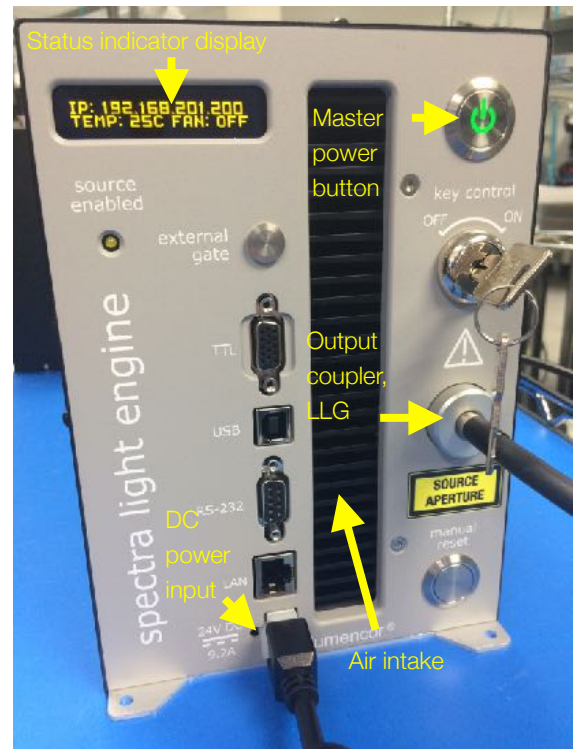
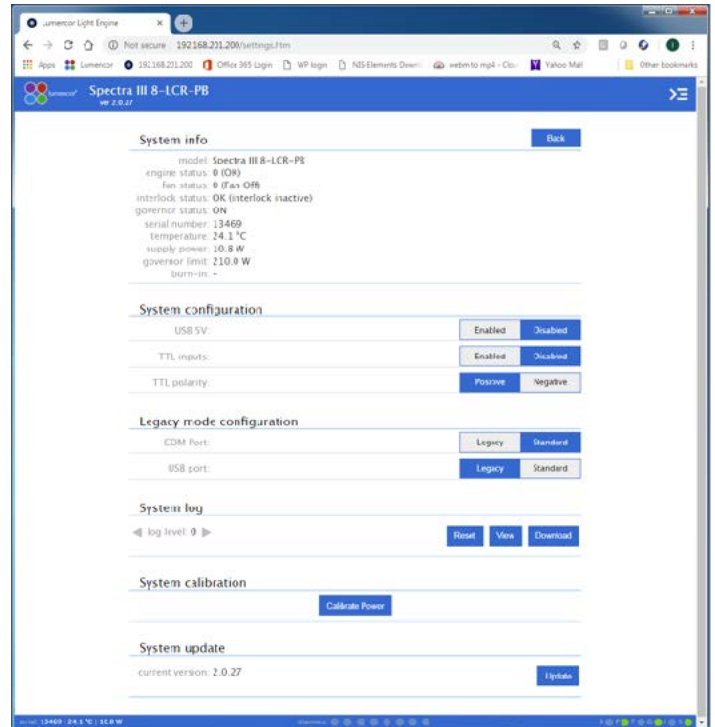

Figure 3. SPECTRA Light Engine front panel
Figure 6. SPECTRA GUI, Settings Tab. The GUI is accessed by typing the light engine IP address (198.168.201.200 in this example) into a web browser.
When setting the SPECTRA Light Engine up for use, place the unit on a hard surface and avoid blocking or restricting airflow at the air inlets (front panel; Figure 3) or exhaust ports (rear panel) on the enclosure. Restricting the airflow will cause the unit to operate at elevated temperatures and will result in decreased product life and/or premature failure.
The SPECTRA Light Engine must be operated in a non-condensing environment (dew point <math><10^{\circ}\text{C}</math> with controlled ambient temperature between 20 and 30° C). Thermal overload protection is provided by the onboard microprocessor in conjunction with an onboard temperature sensor. If the internal temperature registered by the sensor exceeds 50°C or the fan rotor is stopped, all light output channels automatically turn OFF and are locked in this state until the internal temperature is below 50°C and/or the fan restarts. The current reading of the onboard temperature sensor is displayed on the front panel status display (Figure 3) and in the GUI (Section 3.3.3).
The SPECTRA Light Engine may be configured for light delivery via a 3 mm liquid light guide or an SMA-terminated optical fiber. The output couplers are built into the light engine front panel and are not field-exchangeable (Figure 3). The 3 mm liquid light guide output coupler incorporates an electrical power interlock switch in the back of the receptacle. The liquid light guide must be fully inserted in the receptacle to activate the interlock. Electrical power supply to the light engine cannot be turned on via front panel power switch until the interlock is activated. After fully inserting the liquid light guide, lock it in position using the set screw on the side of the receptacle to prevent inadvertent disconnection of the light guide during use.
Connect the DC power supply to a grounded AC wall outlet using the power cord supplied with the light engine. Connect the DC output to the 6-pin receptacle on the front of the light engine (Figure 3). Turn the light engine on using the master power switch. The embedded green indicator will illuminate (if applicable, ensure that the liquid light guide is inserted and secured; see below).
The **Master Power Switch** button on the front panel (Figure 3) turns the electrical power to the unit on or off. A green power indicator embedded in the button is lit when the power supply is connected to the light engine and the power button is in the on position. Initialization of the onboard computer takes about 30 seconds after the master power switch is turned on. When initialization is complete, the status indicator display (Figure 3) will activate.
The **Key Control** (Figure 3) must be in the on position before light output can be turned on. The key must be removed and stored in a secure location when the product is not in use. **ONLY** trained individuals should use and have access to the key. The **Master Power Switch** button, **Key control** and **Remote interlock** (Figures 3,4) can be used to shut off light output.
The **Source Enabled** indicator LED (below the status indicator display, Figure 3) provides a warning indication that one or more light sources are active and emitting invisible and/or visible radiation.
2. Insert the external gate jumper (Figure 2) in the labeled socket on the front panel (Figure 3). Insert the interlock jumper in the labeled socket in the lower left corner of the rear panel² (Figure 4).
9. Type the Light Engine IP address (Figure 3) into any web browser address bar to access the resident Web GUI. The factory default IP address is 192.168.201.200
SPECTRA Light Engines have two serial ports, labeled USB and RS-232 (Figure 3), which can be set to receive either LEGACY or STANDARD mode commands. Connection to the computer requires a USB-A-to-USB B cable (29-10058) or USB-to-RS-232 cable (29-10011). LEGACY commands are limited to controlling on/off switching and intensity adjustment of individual color channels. Only one of the two ports can be set to LEGACY mode at one time. The STANDARD mode command set gives access to an extensive panel of operating status reports and configuration settings in addition to the the basic control functions of the LEGACY command set. A complete listing of STANDARD mode commands is provided in *Lumencor Light Engine Command Reference* (Document number 57-10018). Note that LEGACY and STANDARD mode communications use different serial protocols (9600,8,N,1 and 115200,8,N,1 respectively). Changes to the command mode setting for a serial port can be made via the **Settings** screen of Web GUI (Figure 6). Changes are applied instantaneously and are retained between power cycles.
safeguard against unintended light output when the inputs are initially connected, the light engine TTL port is disabled and must be enabled by a serial command. To enable the TTL input, click the **Enabled** button next to “TTL inputs” in the GUI under the **Settings** tab (Figure 6) or send the standard mode command SET TTLENABLE to the LAN port. Input TTL signals can be conveniently addressed using an accessory BNC breakout cable (Lumencor part no. 29-10156 or 29-10216; Figure 7) connected to the front panel TTL port. The breakout cable also provides a global shutter input (labeled “shutter”). TTL signals input to the global shutter will synchronously toggle all currently enabled source channels on and off.
SPECTRA Light Engine may incorporate different types of solid state light sources. Constituent light sources may include LEDs or luminescent light pipes. The light sources installed and the bandpass filters associated with each are shown on the Certificate of Conformance included with the shipping documents e-mailed by Lumencor to the customer. The certificate of conformance also shows full (100%) power outputs for each source measured at the terminus of the liquid light guide (LLG) or optical fiber (Figure 1). Not all sources may be turned on simultaneously. To prevent exceeding the capacity of the DC power supply, power consumption is tracked by the onboard microprocessor. If a set limit (see **Governor**, Figure 6) is exceeded, either by increasing intensity settings for sources that are already on, or by turning on additional sources, all light output is terminated and an error message will be displayed on the control screen. To clear the error condition, click on the **System** tab in the GUI and then click the **Restart** button under **Governor**.
No response to serial (USB or RS-232) commands	Check that the LEGACY or STANDARD command mode selection (GUI Settings; Figure 6) is compatible with the software driver.
No response to TTL trigger commands	Check that TTL inputs are ENABLED (GUI Settings; Figure 6) and that the TTL polarity setting is consistent with the trigger inputs. Also check that all serial ON/OFF controls are in the OFF state.